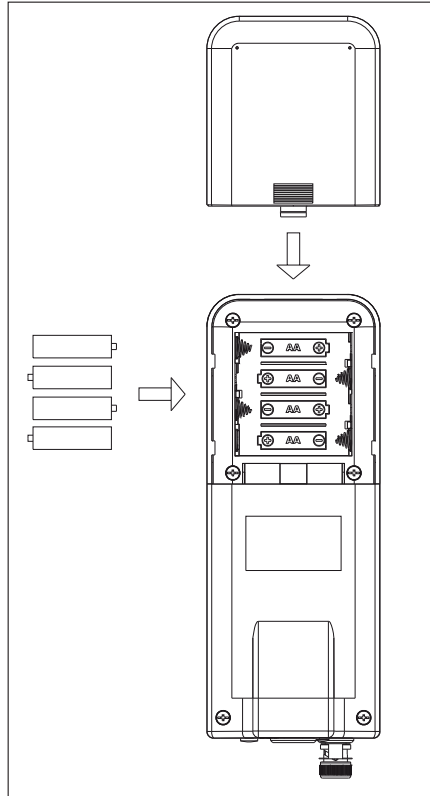

Figure 1
2. The battery compartment is located at the bottom side of the CR meter (refer to Figure 1). Flip the CR meter over so that the bottom side is facing up. Slide the battery cover to expose the battery compartment.